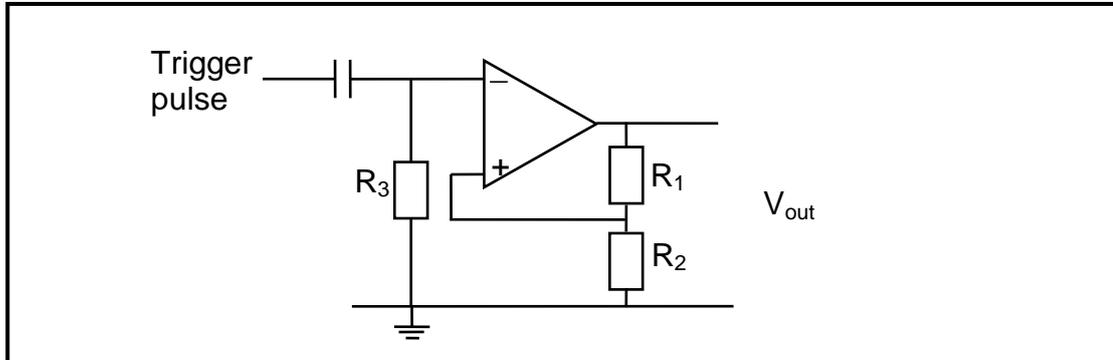
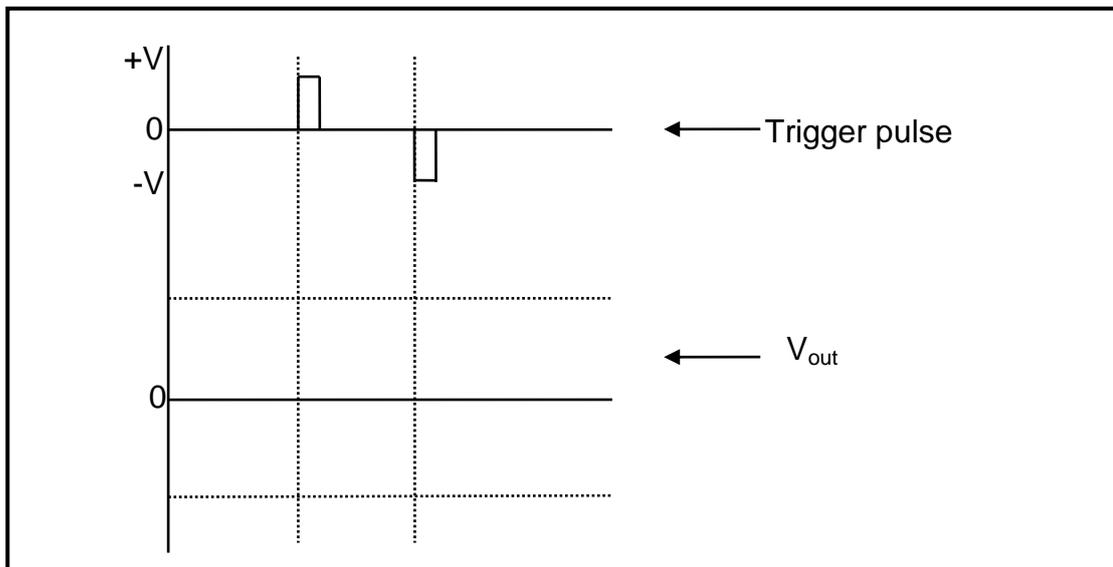

FIGURE 7.4: BI-STABLE MULTIVIBRATOR
FIGURE 7.5: INPUT WAVE FORM FOR THE CIRCUIT IN FIGURE 7.4
7.9 With reference to FIGURE 7.4, draw the input wave form shown in FIGURE 7.5 and the output wave form directly below it.